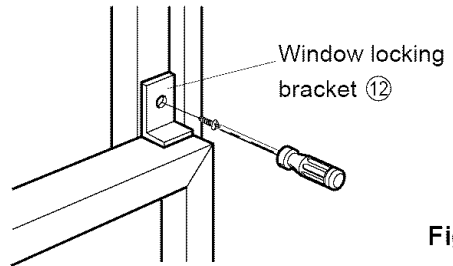

Fig. 9
12. Attach the Window Locking Bracket ⑫ with a Type C screw ⑦. (See Fig. 9)